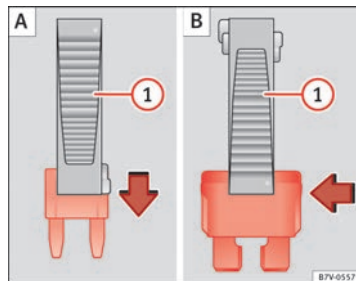

Fig. 205 Removing or fitting a fuse
- For *small fuses*, insert the pincers from above ⇒ Fig. 205 **A**.
- For *larger fuses*, insert the pincers from one side of the fuse ⇒ Fig. 205 **B**.
- Replace the blown fuse by one with an *identical* amperage rating (same colour and markings) and *identical* size ⇒ ①.